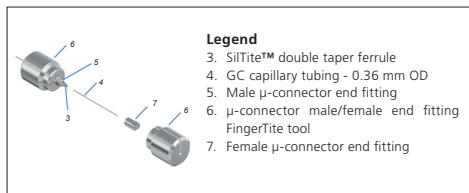

Figure 3. Exploded view of installing the female end fitting.
5. Remove the male μ -connector end fitting (5) from the ferrule/nut adaptor tool – the ferrule should be fully swaged into the end fitting. Replace the ferrule/nut adaptor tool into the kit. Referring to Fig 3., locate the female μ -connector end fitting (7) and slide onto the second piece of GC capillary tubing – the threaded piece should be facing towards the cut end of the tubing.